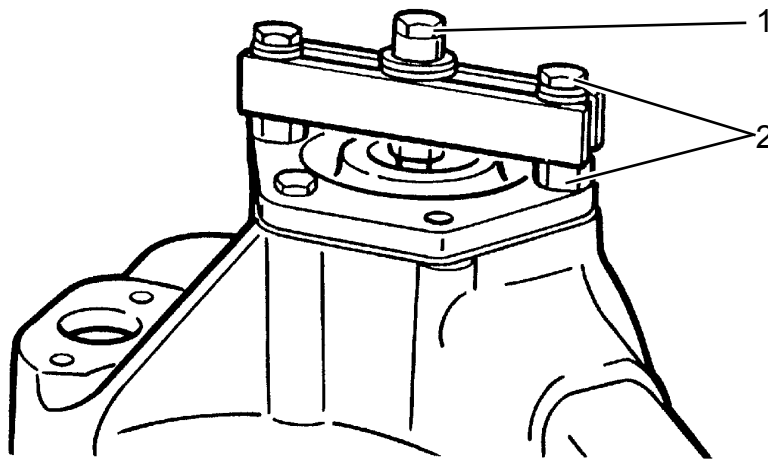

Fig. 7C.54. Output Shaft Push Operation
5. Assemble an oversize shim pack of 5.72 [mm] from shims (33) and position on output shaft manifold (32). This will give an excess end float condition. Install range clutch shaft manifold (32) with oversize shim pack, being sure to align carrier over shaft without damaging previously installed seal rings. Do not install O-ring (34) at this time. Place a 90 [mm] diameter x 6.5 [mm] thick plate over end of directional shaft to act as a pusher plate. Place a 250 to 300 [mm] puller bridge across two aligning manifold mounting holes. Install puller bridge as shown in Fig. 7C.54, utilizing two selected manifold mounting bolt holes. Torque forcing screw to 217 [Nm]. Remove puller bridge.